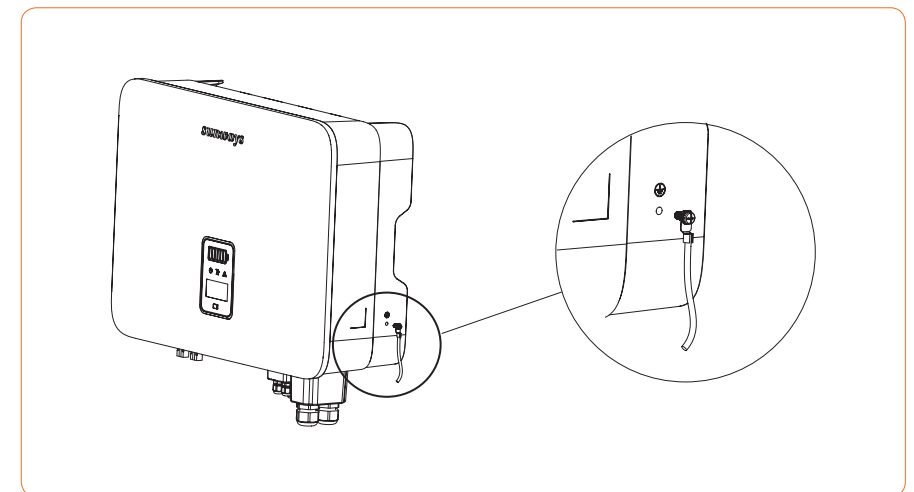

Figure 4-16 Grounding terminal connection
- ① The external grounding terminal is located in the lower right side of the inverter.
- ② Fix the grounding terminal to the PE wire with a proper tool and lock the grounding terminal to the grounding hole in the lower right side of the inverter. As shown in Figure 4-16 :